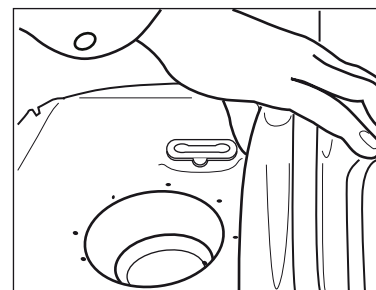

Figure 53
- Lift the vessel out of boiler from the gap over the chasis (Figure 53) and fit the replacement vessel to the boiler in reverse order to removal, ensuring that sealing washer is fitted to pipe connection before tightening, replace the washer if necessary.